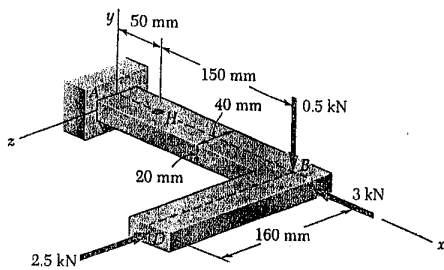

Fig. 4
- Three forces are applied to the machine component  $ABD$  as shown in **Fig. 4**. Knowing that the cross section containing point  $H$  is a  $20 \times 40\text{-mm}$  rectangle, determine the principal stresses at point  $H$ . (25%)